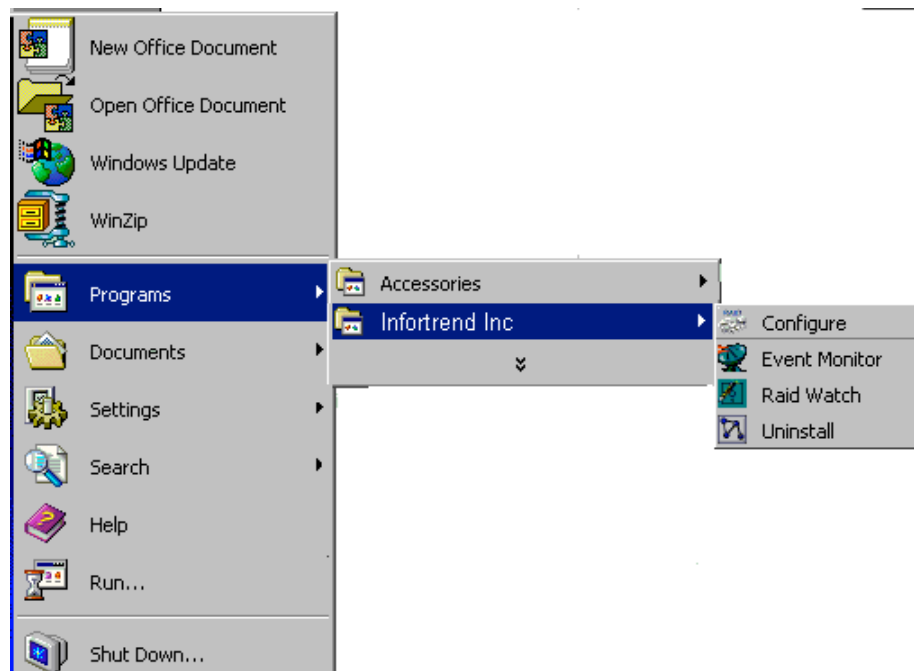

Figure 3-1: Opening the Infortrend Directory
Step 2. If you are using Windows, first selecting “*Start*” then opening the “*Programs*” menu and finally opening the “*Infortrend Inc.*” can easily access the configuration panel. Once the “*Infortrend Inc.*” directory has been successfully opened select the configure option shown in *Figure 3-1*.